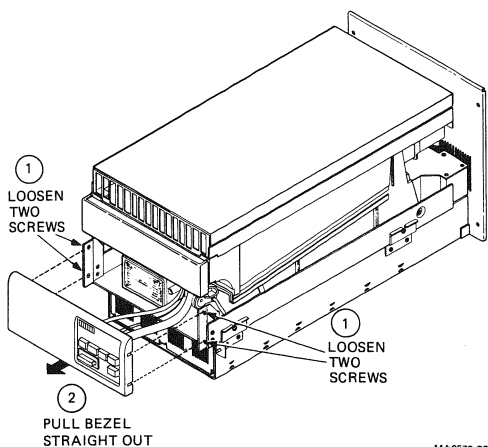

Figure 4-10 Removing the Operator Panel Bezel
2. Loosen, but do not remove, four bezel retaining screws (Figure 4-10).